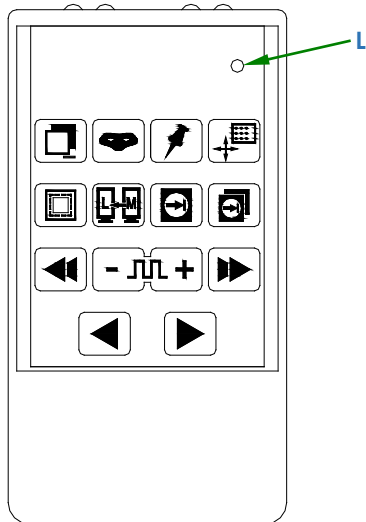

Fig.1a
The battery is flat when LED (L) fails to light up when you press any of the keys (fig.1a).